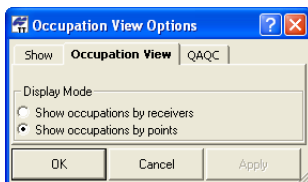

Figure 4-54. Occupation View Options
3. On the *Occupation View* tab, select the desired view options (Figure 4-54). Click **Apply** to save the settings.